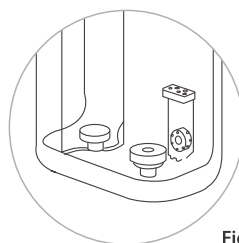

Figure 13
(3) After cleaning, insert the floating ball into the groove. Then put on the floating ball silicone cover and filter screen covers tightly, as shown in the figure. **(Figure 13)**